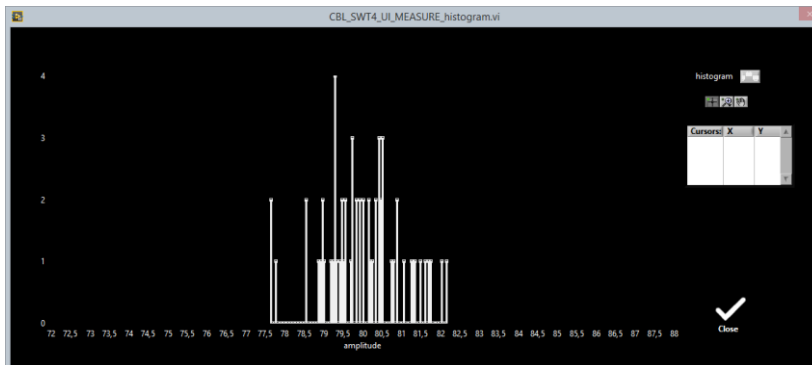

Figure 18: histogram values detail
- b. Historical: press this button to enlarge the historical values graph (Figure 18)